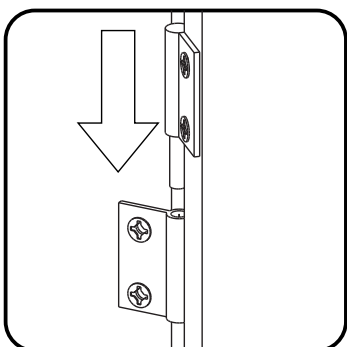

Figure 5
Attach Doors (H) and (I) to unit by sliding door hinges into side panel hinges. (See Figure 5)